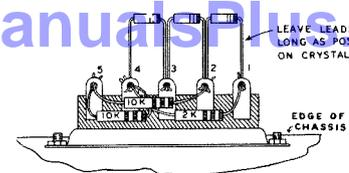
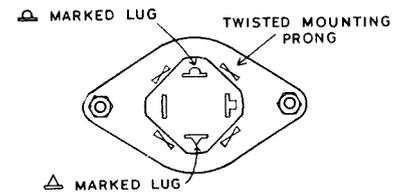

Figure 8
Figure 9
- (✓) Connect a 2 K Ω resistor between lug 1 (NS) and lug 4 (NS). See Figure 8.
- (✓) Connect a 10 K Ω resistor between lug 4 (NS) and lug 5 (NS).
- (✓) Connect another 10 K Ω resistor between lug 2 (NS) and lug 5 (NS). Make sure the lead wires do not touch connections to lug 4.
- (✓) Connect a 5 1/2" wire between lug 4 (NS) and the negative (-) lug (S) on the meter.
- (✓) Connect a 7 1/2" wire between lug 2 (NS) and the positive (+) lug (S) on the meter.
- (✓) Connect a crystal diode with the cathode lead (see page 23 for coding of cathode on diodes) to lug 1 (S) (2). Connect the other lead to lug 2 (NS). Leave leads as long as possible.
- (✓) Connect a second crystal diode with the cathode lead to lug 2 (S) (4). Connect the other lead to lug 3 (NS). Leave leads as long as possible.
- (✓) Connect a third crystal diode with the cathode lead to lug 3 (NS). Connect the other lead to lug 4 (S) (4). Leave leads as long as possible.
- (✓) Install the filter condenser on top of the chassis by passing the mounting prongs through the slots in the mounting wafer, (make sure the condenser is properly positioned) and twist the prongs 1/8 turn with a pair of pliers. See Figure 9 and Pictorial 1 on Page 6.